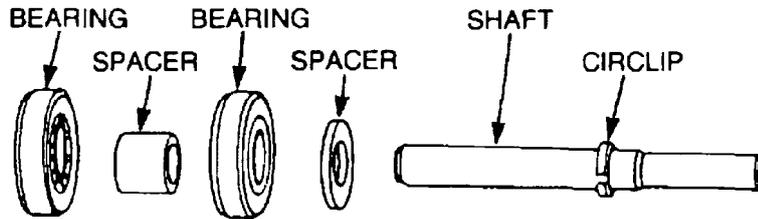

Figure 62 Removing the Bearing and Spacers
- h. Press the bearings and spacers from the shaft, but do not remove the circlip (Figure 62) unless the circlip is damaged.
- b. Pack the bearing with grease and fit the spacers and bearings to the shaft in the sequence shown in Figure 62, using a suitable press for the bearings. When installing the bearings, ensure that the sealed sides of the bearings face outward and that the bearing installing force is applied to the inner ring of the bearing.